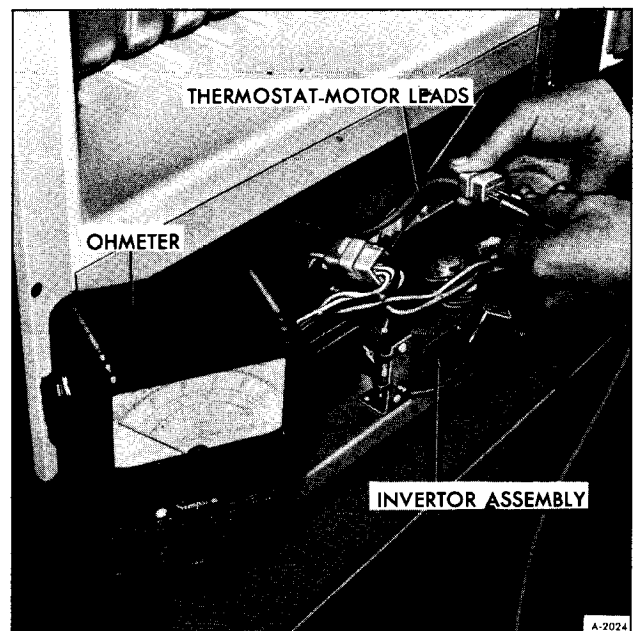

Figure 3—Checking Thermostat at Inverter
*The first method is,* gain access to the inverter assembly. Pull this assembly from the bottom of the refrigerator and disconnect the thermostat motor leads. Connect a ohmmeter to the thermostat leads (figure 3) and turn the thermostat to "5". There should be continuity. If not replace thermostat.